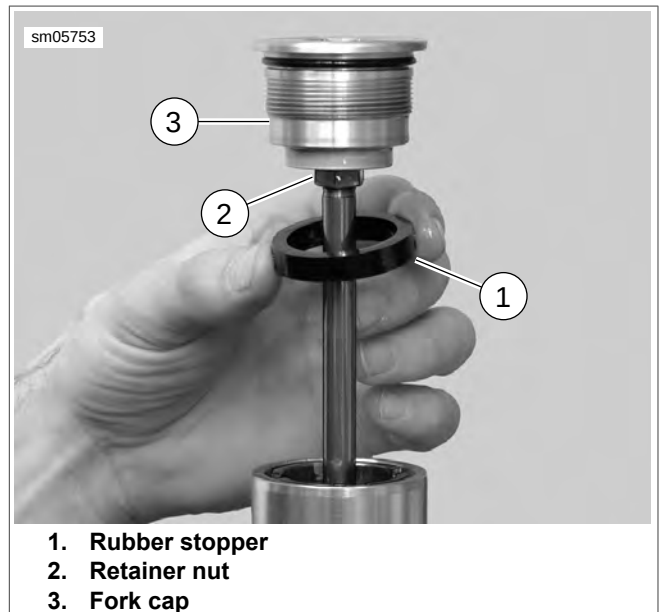

Figure 2-117. Install Rubber Stopper, Retaining Nut, and Fork Cap
15. See Figure 2-117. Install rubber stopper, followed by retainer nut (retainer nut must be installed 14 mm (0.551 in) from top of threaded shaft).